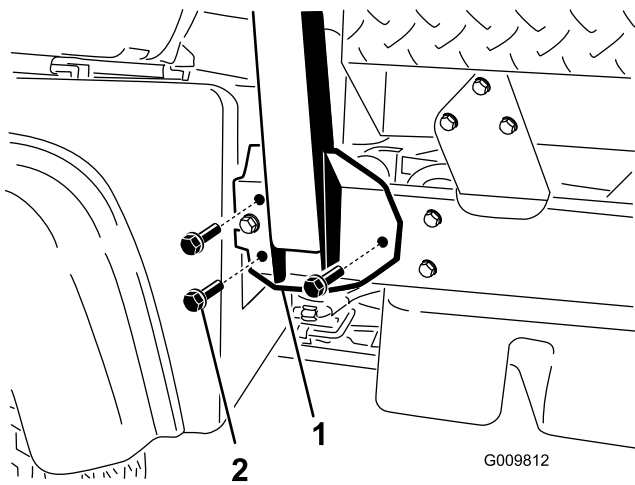

Figure 3
2. Align each side of the ROPS with the mounting holes on each side of frame of the machine (Figure 3).